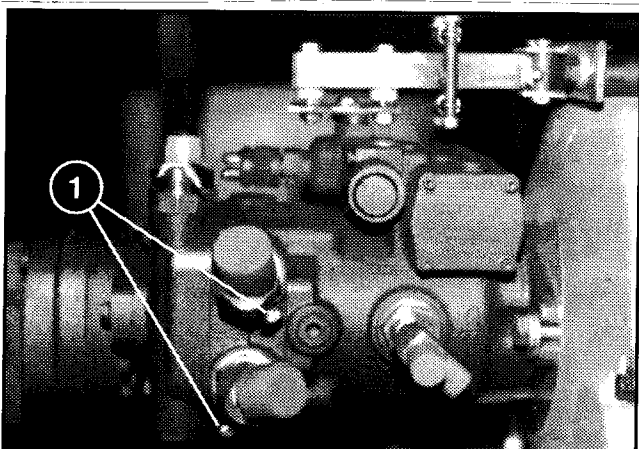

Figure 35
4. System pressure Test Ports. (Fig. 35)